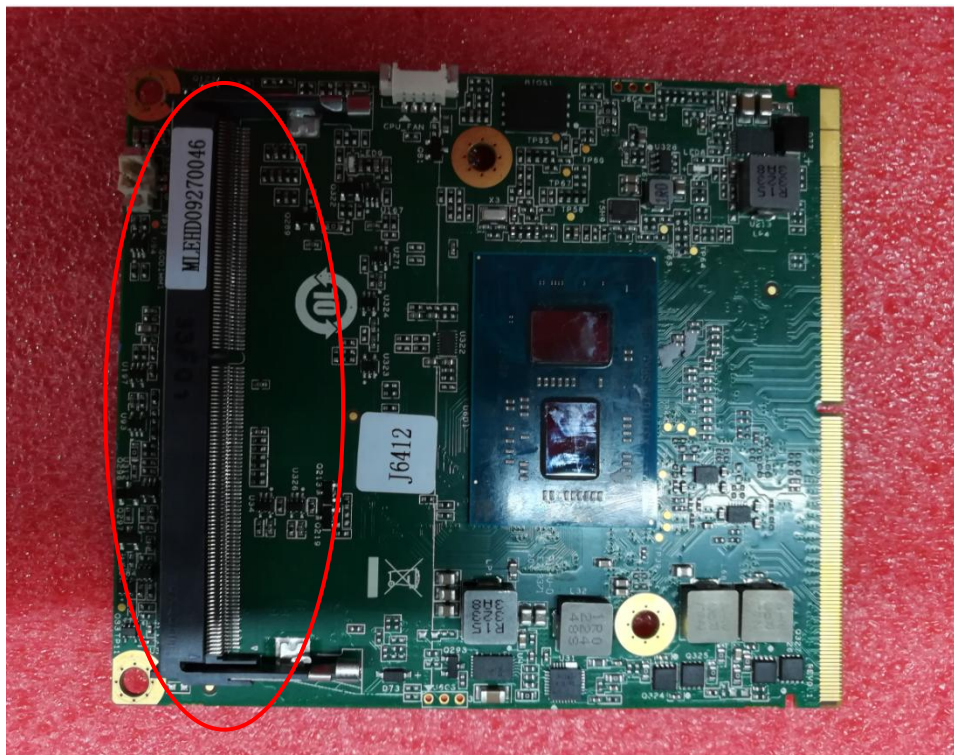

Figure 2.22
Step 5: As shown in Figure 2.22, the mainboard is the MXM-I719 module of the N0de series. Open the latch in the red area to replace another type of memory module.